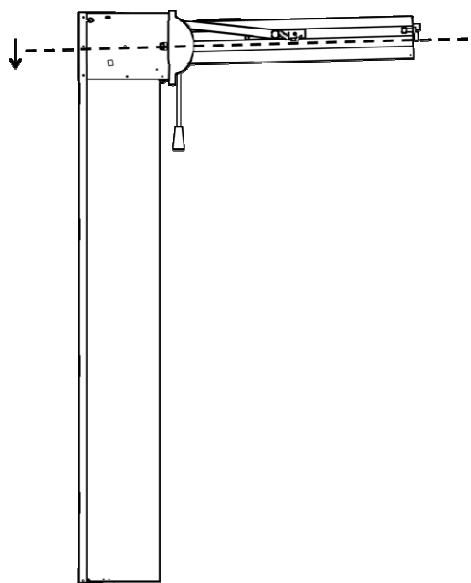
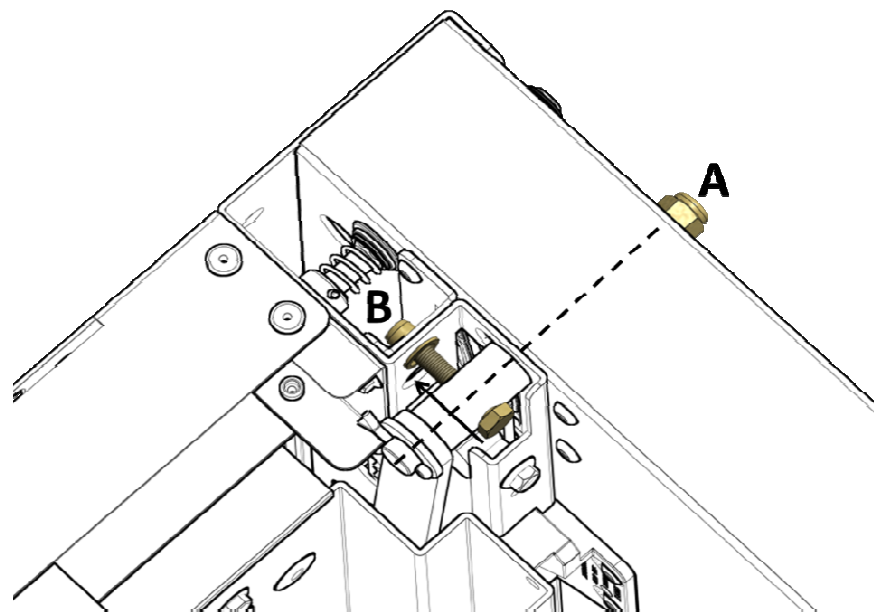

Figure 4-6
Figure 4-7
The lifting-arm upper joint is properly located from the factory. When the door is in open position, the upper section is slightly tilted as showed in Figure 4-6..
In open position, the upper section must be slightly tilted as showed in Figure 4-6. To adjust the upper section incline, the position of the pin highlighted in Figure 4-7 with a dashed line must be adjusted. Adjust the pin on both sides with door closed.
3. Release the pin nut, A (Figure 4-7);
4. Tighten the adjustment screw, B, to create more incline (Figure 4-7);